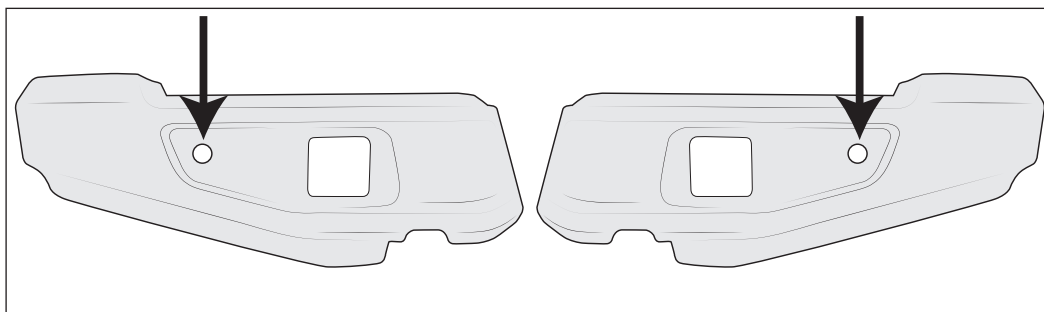

Figure 37
- A. Using template AEV30397AA, drill the outside sensor holes in the locations shown below (fig 37). Be sure to deburr the holes after drilling. Be sure to check the scale on your template.